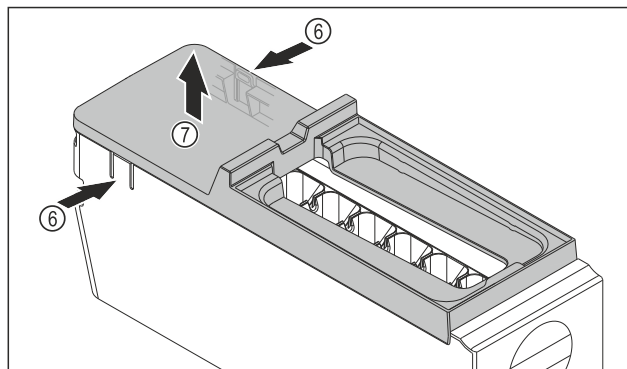

Fig. 106
- Removing the EasyTwist-Ice body cover: Push the tabs Fig. 106 (6) on both sides of the EasyTwist-Ice body with one hand.
- Use the other hand to remove the cover Fig. 106 (7) upwards.